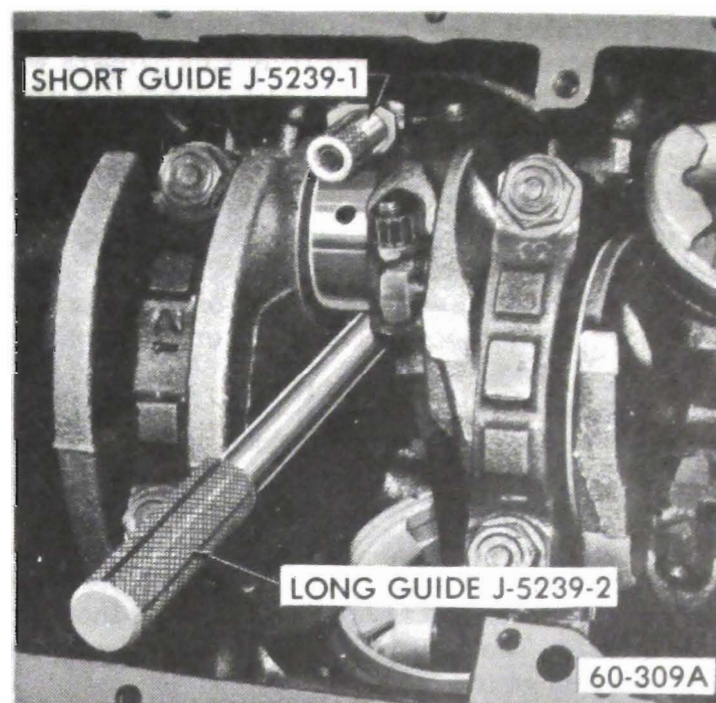

Figure 60-38 - Connecting Rod Bolt Guides Installed
4. With No. 1 crankpin straight down, remove the cap with bearing shell from No. 1 connecting rod, install the *short* Connecting Rod Bolt Guide J-5239-1 on the connecting rod bolt, above crankpin. Install the *long* Connecting Rod Bolt Guide J-5239-2 on remaining stud. Turn guides down fully to hold the upper bearing shell in place while removing piston and rod assembly. See Figure 60-38.